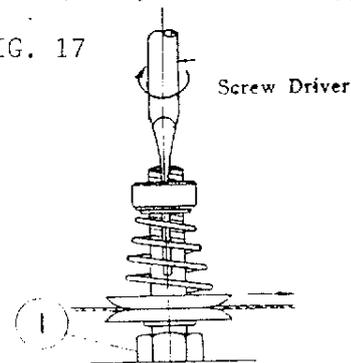

Fig. 17
16. REGLAGE DU BLOC DE RELACHEMENT DE TENSION No 2 - FIG. 17
LE PROCEDE STANDARD, COMME INDIQUE FIG. 17, CONSISTE A TOURNER LA POULIE DANS LA DIRECTION DE LA FLECHE POUR TIRER LE FIL ET LE DISQUE DE TENSION No 2 EN S'ECARTANT PERMETTRA AU FIL DE GLISSER RAPIDEMENT.
INSERER UN TOURNE VIS DANS L'AXE DE TENSION No 2 COMME INDIQUE FIG. 17, DESSERER L'ECROU (1) ET TOURNER L'AXE DANS LA DIRECTION DE LA FLECHE, LORSQUE L'ECROU EST SERRE, LA DISTANCE ENTRE LA LISIERE DU GUIDE BARRE SUPERIEUR ET LA PARTIE SUPERIEURE DE LA BARRE A AIGUILLE EST REDUITE ET ELLE EST AUGMENTEE SI L'AXE EST TOURNE DANS LA DIRECTION OPPOSEE.